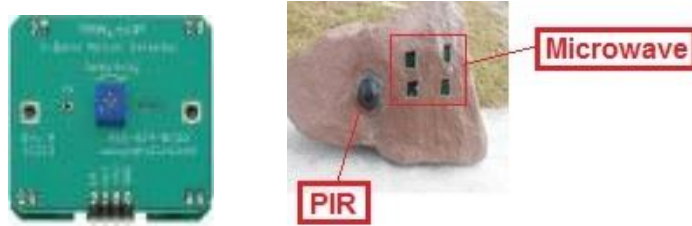

Fig.4 Standalone MW sensor (left image), and MW sensor instl with a PIR in a fiberglass stone (rt image)
- (3) **MW**. It is an active sensor which works on the principle of RADAR in X-Band (10.525GHz) freq. The detection is caused by a change in receive freq shift caused by moving body in sensor FOV. The detection rg is 20-25ft & FOV is 60deg. MW is instl alongside PIR sensor to enhance detection cap. Dual sensor instl in a sensor node is shown in fig. 4.